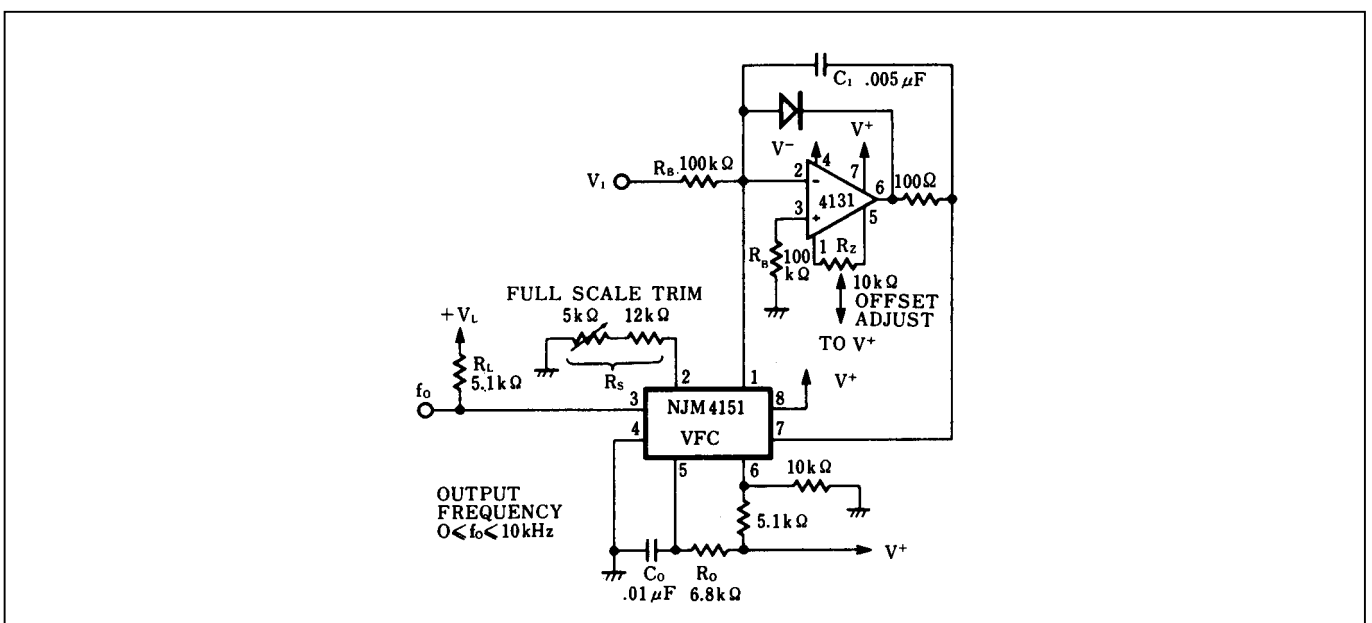

Figure 4. Precision Voltage-to-Frequency Converter
In this application (Figure 4) the NJM4151 VFC is used with an operational amplifier integrator to provide typical linearity of 0.05% over the range of 0 to -10V. Offset is adjustable to zero. Unlike many VFC designs which lose linearity below 10mV, this circuit retains linearity over the full range of input voltage, all the way to 0V.
1. Set $R_S = 14\text{k}\Omega$ or use a $12\text{k}\Omega$ resistor and $5\text{k}\Omega$ pot as shown in the figures. (The only exception to this is Figure 4.)
b) For the precision mode circuit of Figure 4, set $R_B = V_{10}/100\mu\text{A}$ where V_{10} is the full scale input voltage. Alternately the op-amp inverting input (summing node) can be used as a current input with full scale input current $I_{10} = -100\mu\text{A}$.
- I. Design a precision VFC (from Figure 4) with $f_0 = 100\text{kHz}$ and $V_{10} = -10\text{V}$.